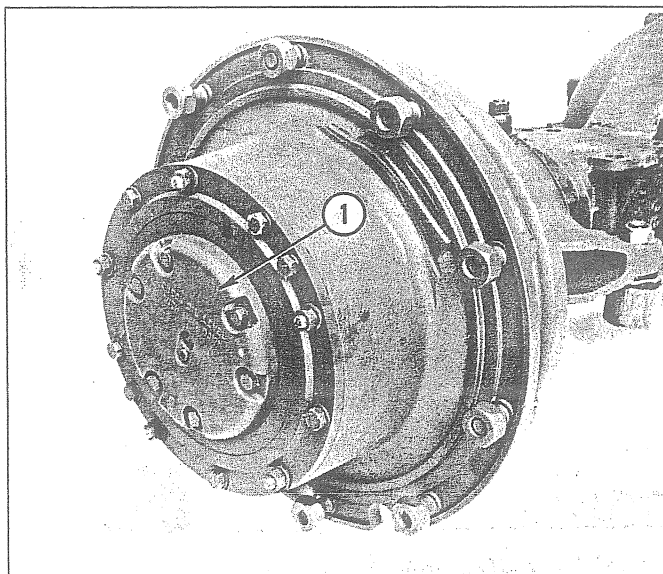

Fig. 4 - Sun Gear Thrust Cap in Place
2. Remove sun gear thrust cap, No. 1, Fig. 4.